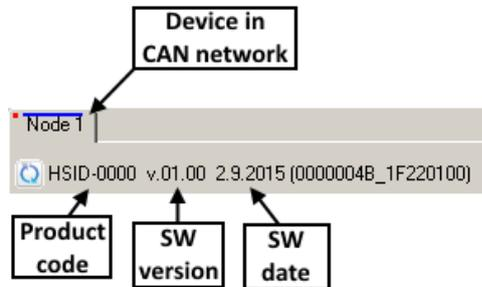

Fig. 6.6 List of devices in the network
1. If RTCON is not running, start it. After starting the program a list of devices present in the CAN network should be formed – see Fig. 6.6:
1. If RTCON is not running, start it. After starting the program a list of devices present in the CAN network should be formed – see Fig. 6.6.